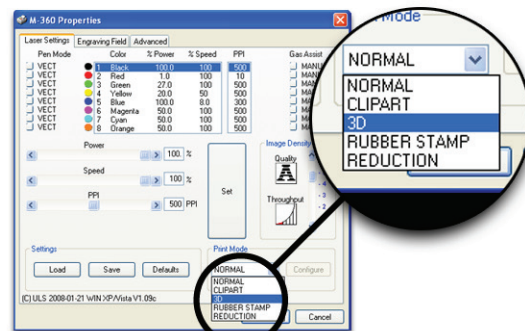

Figure 2
3. Turn on 3D mode when running a photo that's been processed through 1-Touch Laser Photo - Figure 2.